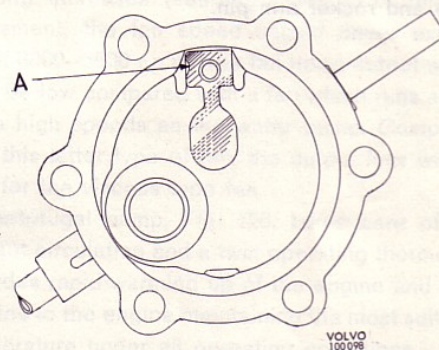

Fig. 122 Location of leaf spring
- Fit the spring according to Fig. 122 and the stop arm. Tighten the screw sufficiently so that the spring fits well against the pump housing.